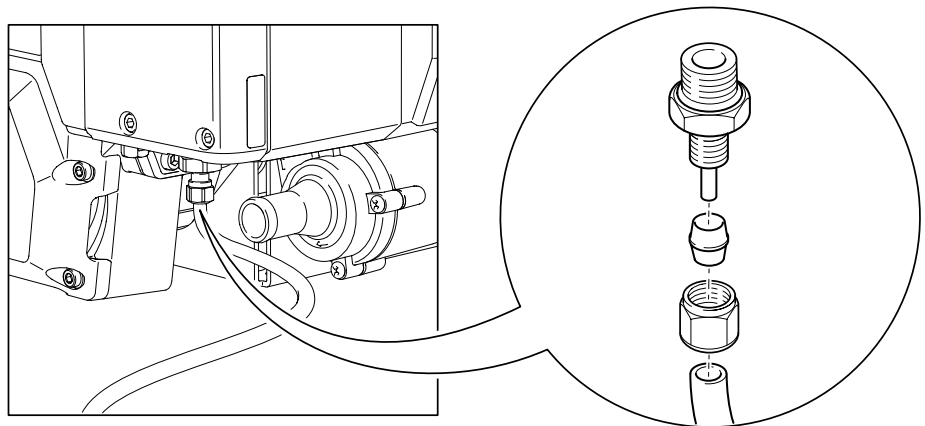

Figure 2-55.
- a) Put the fitting together loosely (see figure 2-55).